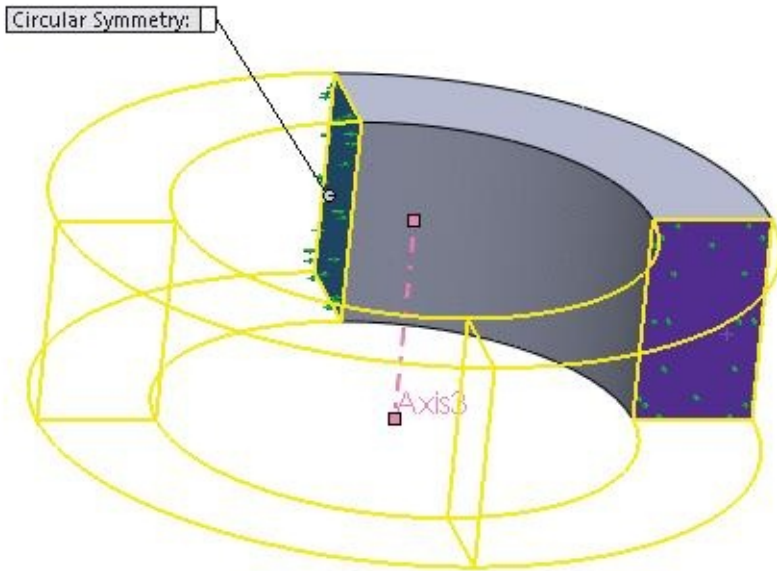

Figure-27. Preview of symmetry fixture
- Click in the next box in **PropertyManager**, select the ending face for circular symmetry. Similarly, click in the axis box in **PropertyManager** and then select the axis about which the part is symmetric. Preview of symmetry will be displayed as shown in Figure-27.